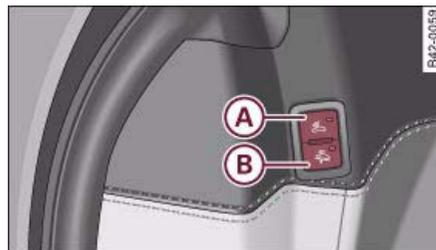

Fig. 43 Switches for the interior monitor in the door trim (only visible when the driver's door is open)
- Press the switch **(A)** on the door ⇒ fig. 43.